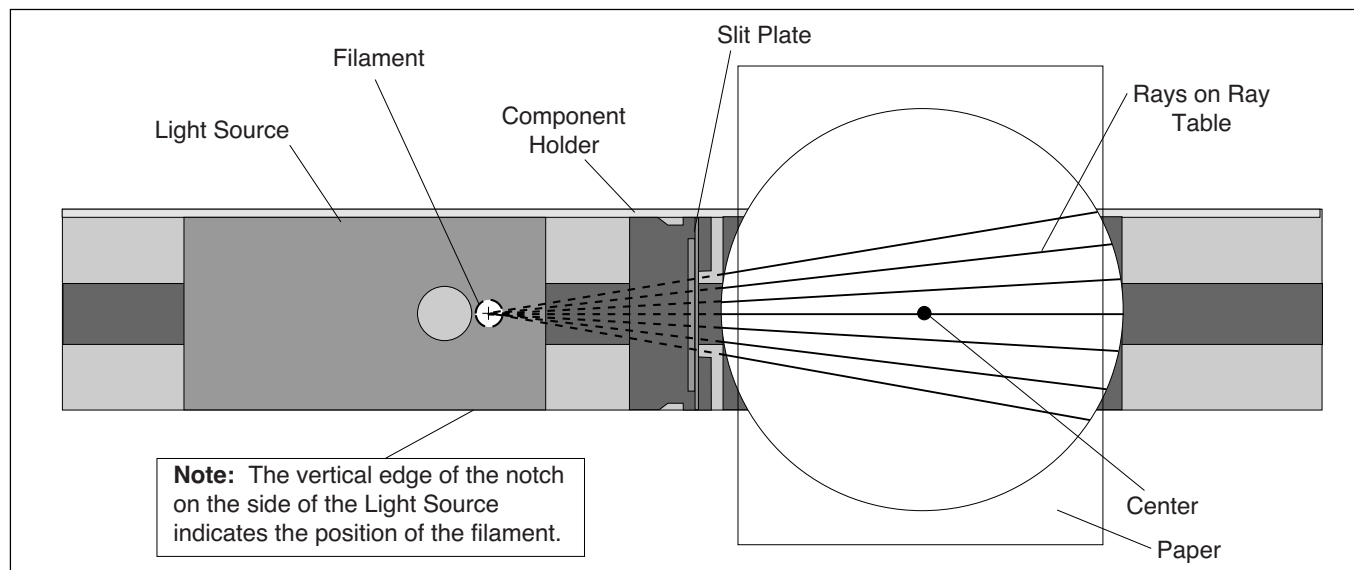

Figure 1.2: Ray Tracing
You can use the fact that light propagates in a straight line to measure the distance between the Light Source filament and the center of the Ray Table. Figure 1.2 shows how. The rays on the Ray Table all originate from the filament of the Light Source. Since light travels in a straight line, you need only extend the rays backward to locate the filament. (See Step 3 in the first part of this experiment.)
- ① Measure the distance between your reference mark and the point of intersection of the rays. _____
- ② Use the metric scale on the Optics Bench to measure the distance between the filament and the center of the Ray Table directly (see the note in Figure 1.2). _____
- ③ How well do your measurements in Steps 1 and 2 agree? Comment. _____